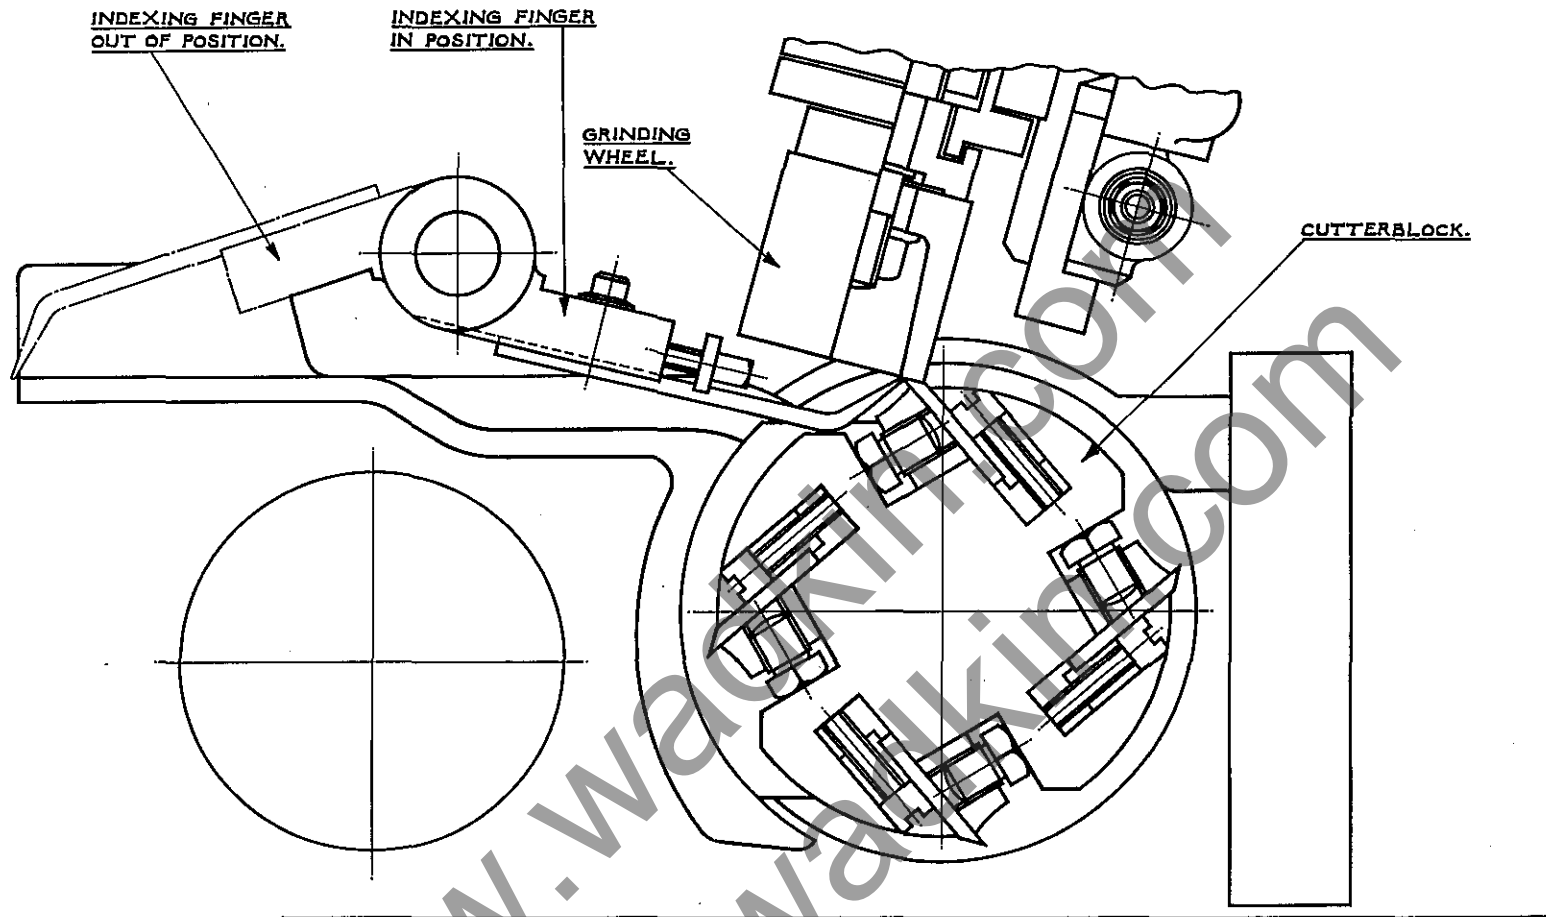

FIG.18. SKETCH SHOWING INDEXING FINGER IN AND OUT OF POSITION.
Arrange the machine as illustrated in Fig. 16 for grinding. Release the indexing finger 'S' from 'out position' and rotate the cutterblock by hand using the crankhandle until the indexing finger rests in front of the knife edge 'in position'. Fig. 18 shows the indexing finger both in position and out of position. Start the grinder spindle and adjust the vertical slide screw 'K' to bring the grinding wheel on to the back bevel of the knife. Traverse the grinding wheel across the knife two or three times and finish with the stone clear of the cutter at the rear end of cutterblock. The cutterblock is then rotated clockwise to the next knife, positioned and located by the indexing finger. Grind all 4 knives at one setting and if necessary lower the grinding wheel and take further
**IMPORTANT.** Make certain that the indexing finger is latched back properly out of position as Fig. 18 before re-starting the machine.